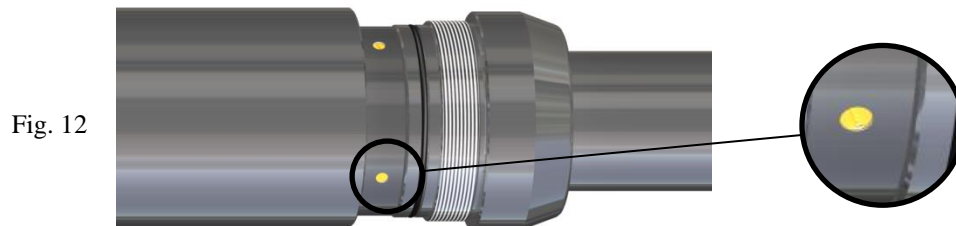

Fig. 12
L-22) Screw shear screws (35) into setting piston (21). Tighten until shear screws (35) make contact with inner mandrel (2). Back shear screws (35) out 1/4 turn (Fig. 12).